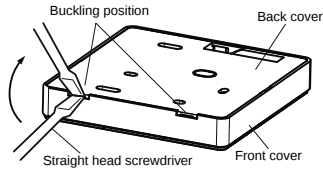

Fig.5
1. Use straight head screwdriver to insert into the bucking position in the bottom of wire controller, and spin the screwdriver to take down the back cover. (Pay attention to spinning direction, otherwise will damage the back cover!) (Fig.5)